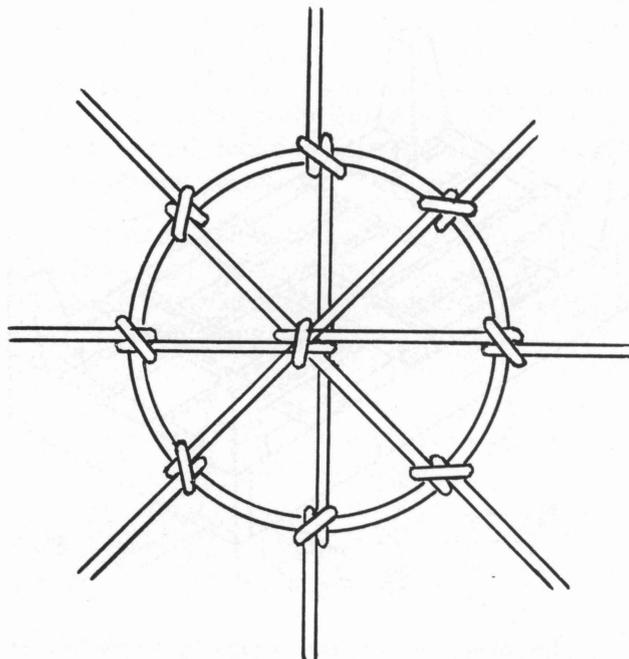

Fig. 8
A good quality spring twine should be used for tying the springs. Each spring is crossed by four cords (Fig. 8).
5) The twine is pulled tightly away from the worker, the thumb and index finger holding the cord tightly until the knot is complete. When made correctly, this knot forms a figure 8 (Fig. 11c). The knot cannot slip and will not pull out if the twine wears through at any point. The twine is then stretched across the top of the spring and a similar knot made on the opposite side of the coil.